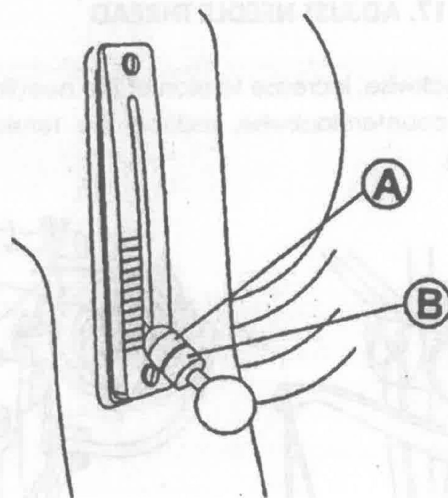

Fig.10
The length of stitch is regulated by loosening the serrated nut(A) on the reverse lever, Fig.10.